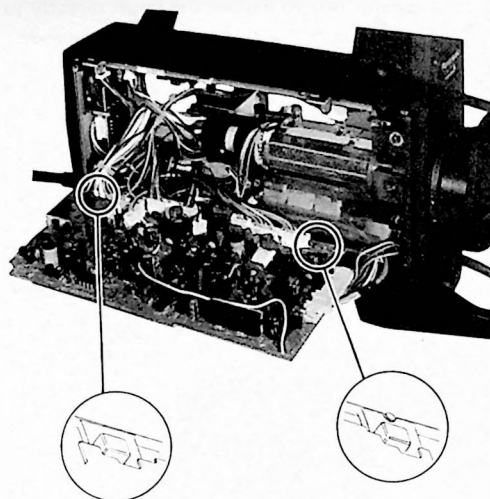

Fig. 3-15
- Hook both PCBs onto the PCB holding edges of the chassis to hold both PCBs firmly. (Fig. 3-15)